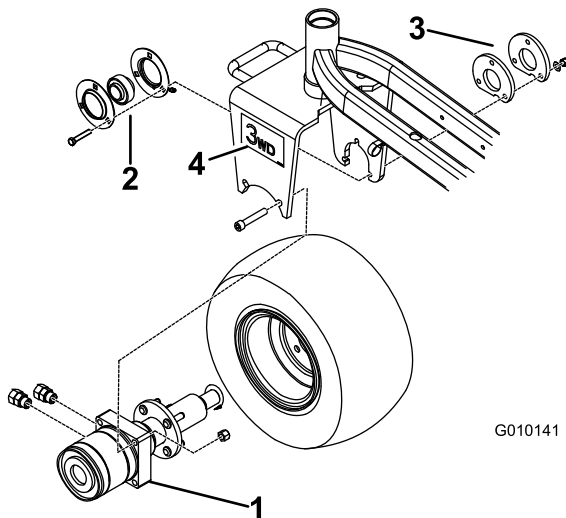

Figure 2
1. Remove the grease fitting from the new motor and hub assembly (Figure 2).
4. Insert the flangettes and the bearing onto the motor-shaft end as shown in Figure 2.
5. Mount the 2 straight fittings to the side of the motor assembly (Figure 2).
Note: Ensure that the ports on the motor face rearward (Figure 2).
7. Loosely secure the motor to the inside of the castor fork with 2 socket-head screws and nuts (Figure 2).
Note: The grease fitting must be in the downward position on the flangette (Figure 2).
15. Apply a decal to each side of the castor fork (Figure 2).